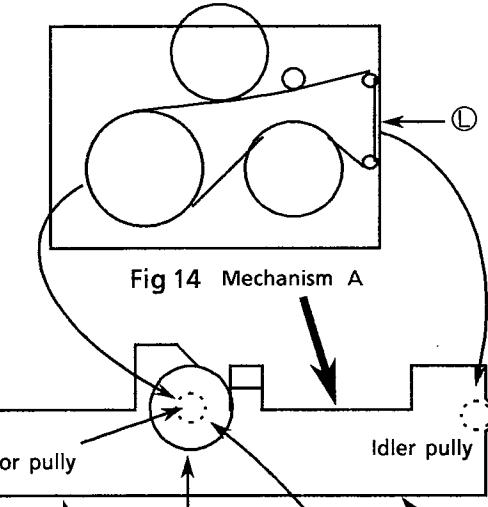
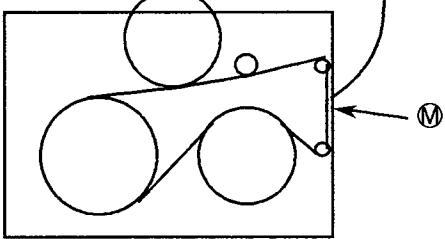

Fig 14 Mechanism A
Fig 16 Mechanism B
1. Install the belt of mechanism A as shown in fig 14.
4. Hang the part ⑪ to the Idler pulley.
5. Install the mechanism B installed the belt as shown in fig 16 to the bracket which is assembled with the mechanism A.
6. Hang the part ⑫ to the motor pulley using a tweezers and the like.